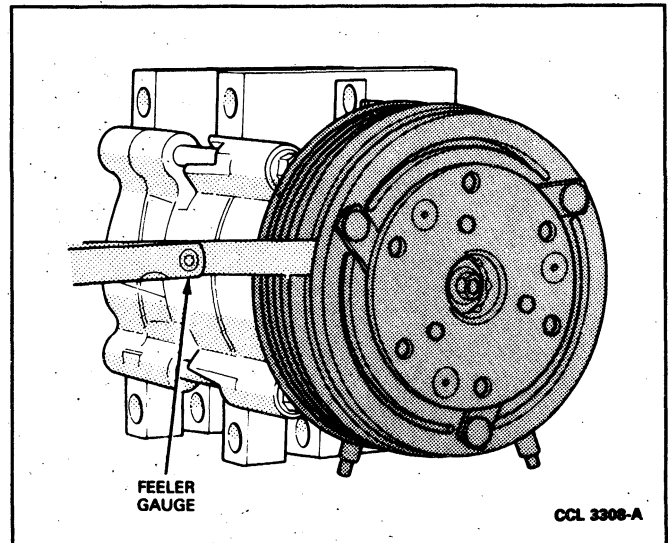

FIG. 8 Checking Clutch Air Gap
6. Check clutch air gap between clutch hub and pulley mating surfaces with a feeler gauge (Fig. 8). The air gap should be between 0.45 and 0.85 mm (0.018 and 0.033 inch). Check at three locations equally spaced around the pulley.